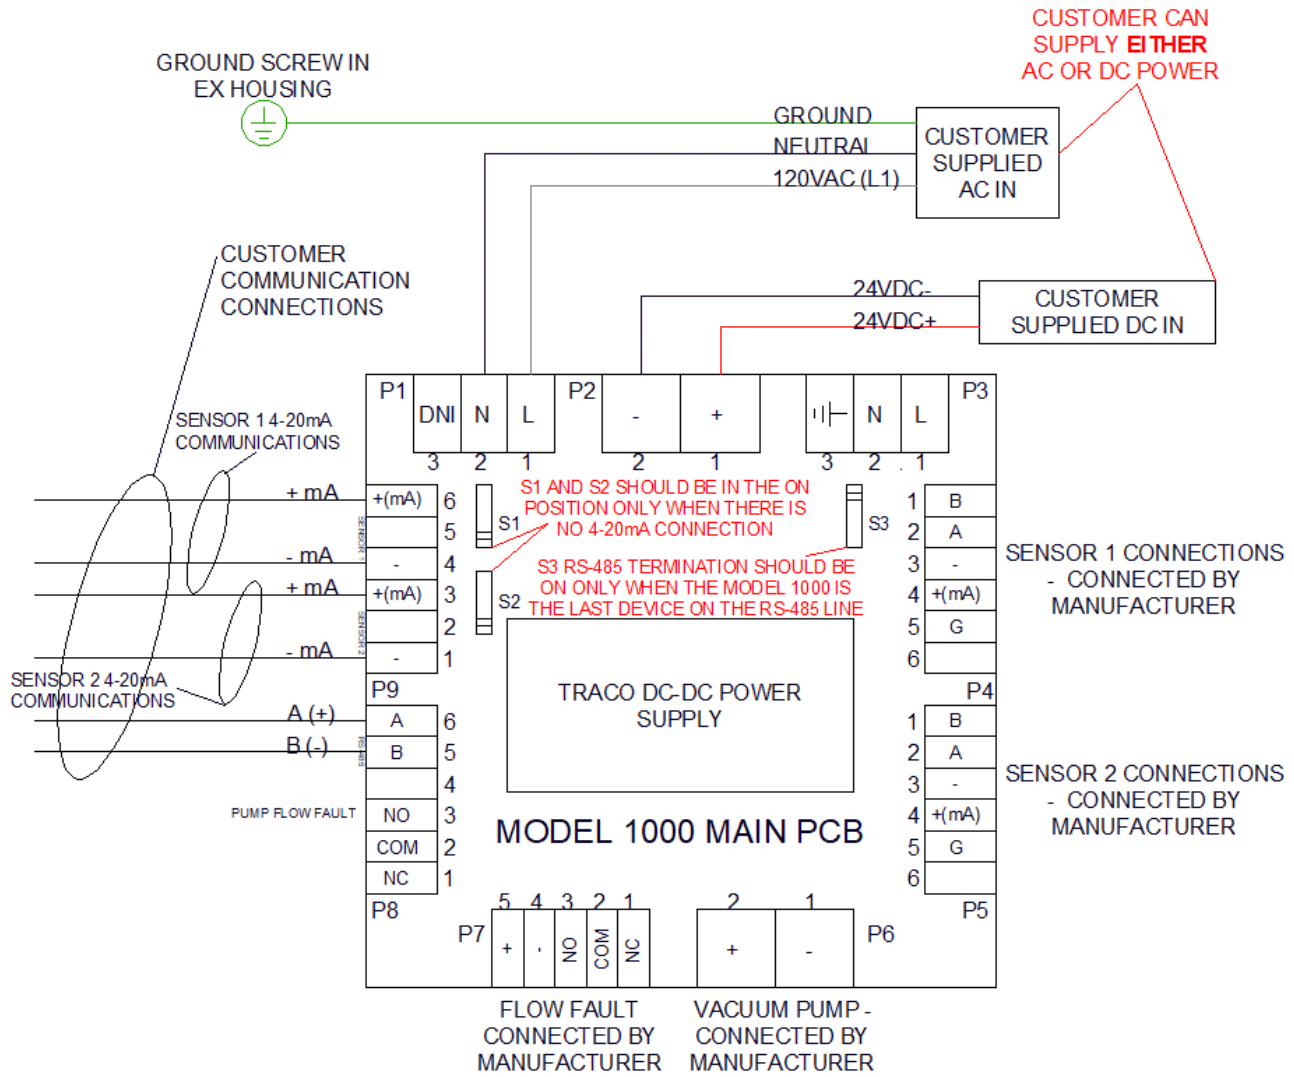

Figure 7 Customer Installation Wiring Connections
1. For AC powered units, connect 100-240 VAC to the terminal block labeled “MAINS INPUT” (P1) inside the enclosure. Connect the ground wire directly to the enclosure in the lower right corner using the green screw provided with a closed loop terminal. For DC powered units, connect 18-36VDC to the terminal connector board labeled “DC INPUT” (P2) (refer to Figure 7). Use 16GA CSA Approved UL listed 300V 90°C wire. 3-amp breaker must be installed between the instrument and customer power source.
2. The 4-20mA and/or RS-485 signal outputs should be wired from the terminal PCB and then out the right side of the electronics enclosure (refer to Figure 7). The 4-20mA and RS-485 connections are equipped with switches so that the connections can be terminated when the outputs are not needed. Switches S1 and S2 should be in the ON position ONLY when there is NO 4-20mA connection. Switch S3 should be in the ON position ONLY when the Model 1000 is the last device on the RS-485 line. Refer to the IR-700/DM-700 manuals for additional communication information.